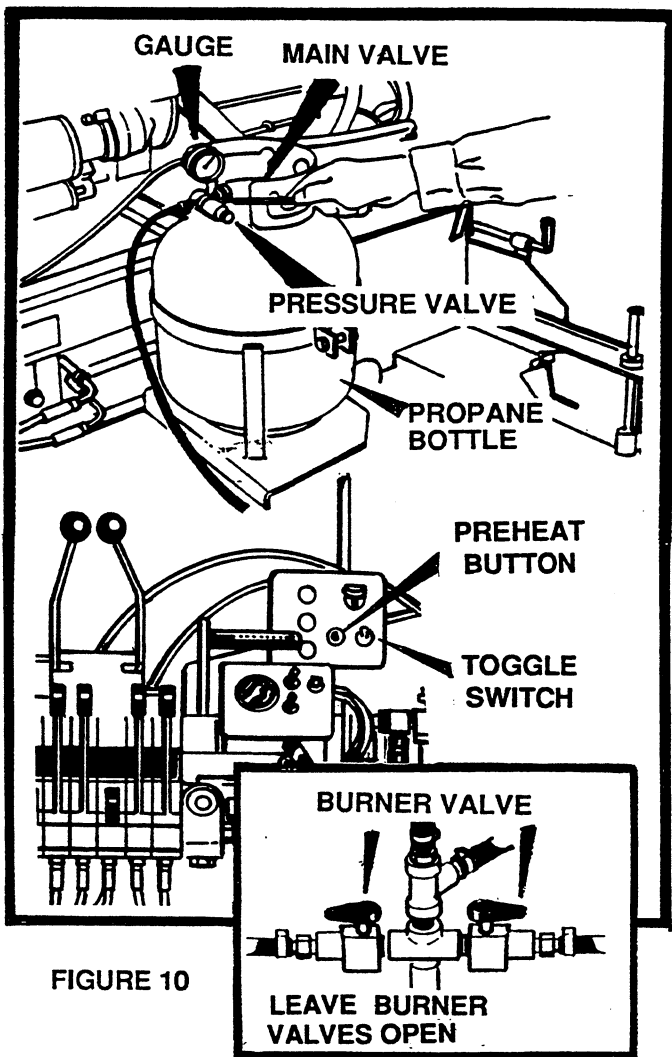

FIGURE 10
1. Turn main valve on the propane tank counter-clockwise to "on" position as shown in figure 10.
2. Adjust pressure valve in or out until gauge reads between 15 pounds as shown in figure 10.
To light automatic burners, turn propane main valve on, push preheat button for 5 seconds, turn burner toggle on. When screed has heated, switch off. TURN PROPANE BOTTLE OFF DAILY. See figure 10.